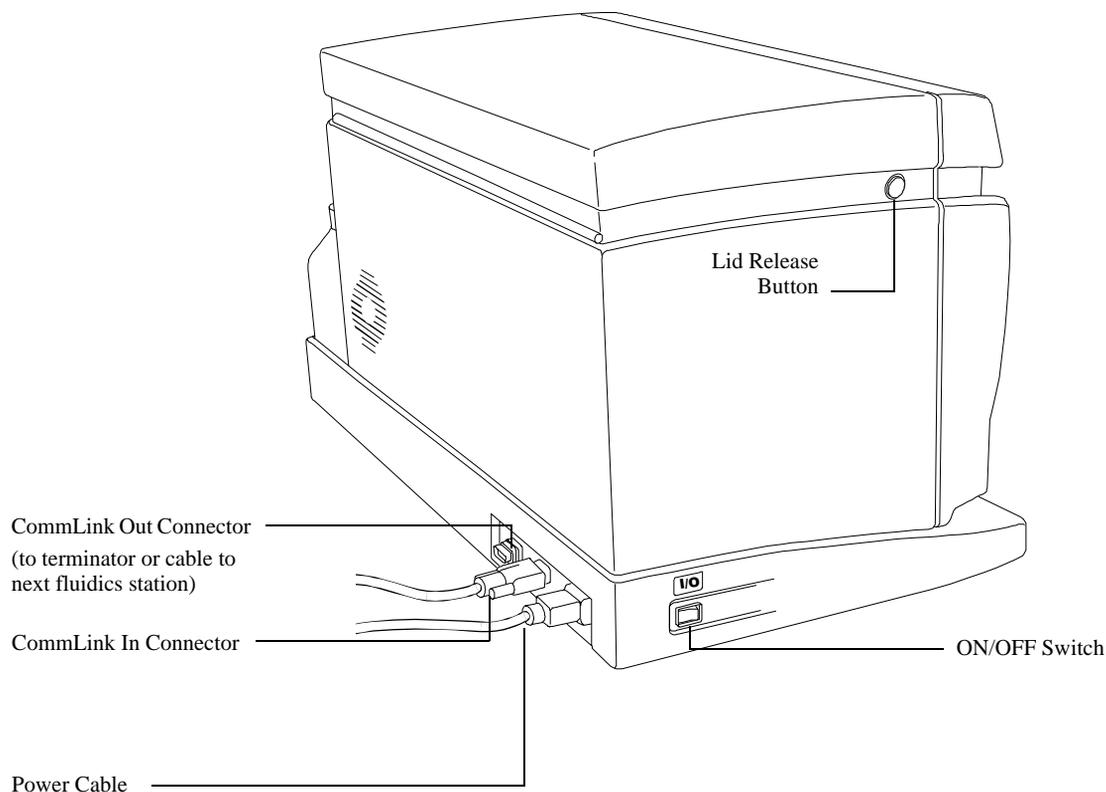

Figure 2.1
2. Check to ensure that the fluidics station is connected to the workstation. CommLink connections are located on the back of the fluidics station. See **Figure 2.1 on page 18**.
3. Flip the ON/OFF switch for the fluidics station to the ON position. The switch is located on the left side of the fluidics station. See **Figure 2.1 on page 18**. The LCD window should display the following: